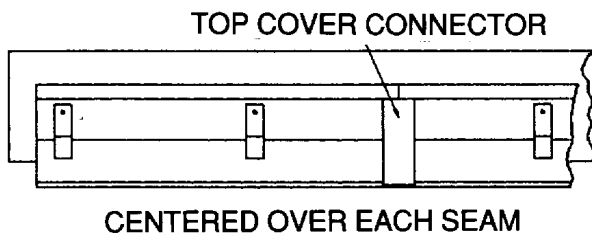

Figure 9
2. Caulk the top cover support sections at the seams then center the top cover connectors over each seam and attach with #10 $24 \times 1/2"$ screws as shown in figure 9.